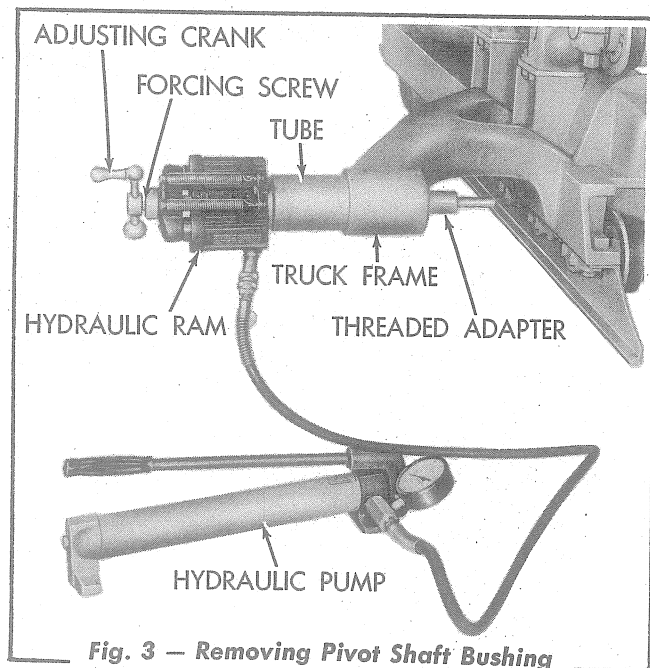

Fig. 3 — Removing Pivot Shaft Bushing
- b. The pivot shaft bushing may be removed from the truck frame by using special tools similar to the ones shown in Fig. 3, after the seals have been removed from both ends of the bushing.